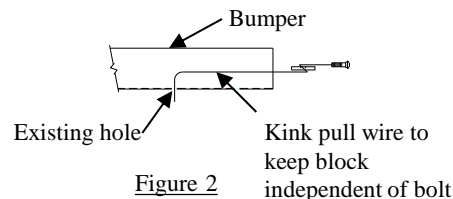

Figure 2
- Use pull wires to feed the carriage bolts and blocks into frame rails though access holes as shown in Figure 2. Feed pull wire through forward hole and out rearward access slot. Attach spacer and carriage bolt and feed though access slot using kink wire process as shown in Figure 2 both sides. Leave pull wires attached.